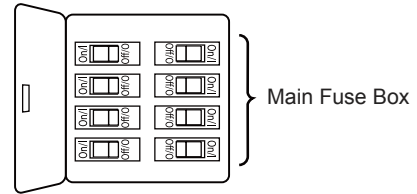
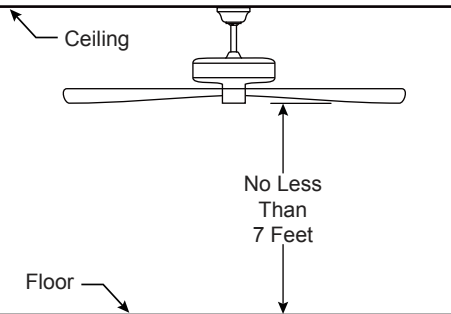
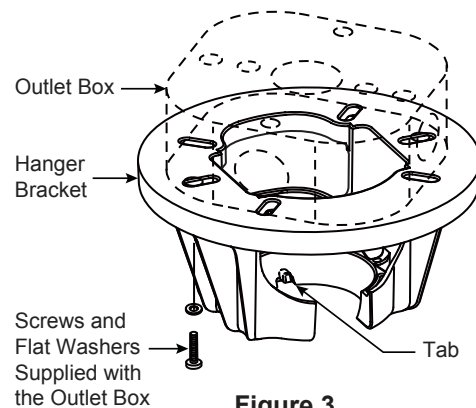

Figure 1
Figure 2
Figure 3
Your new ceiling fan will require a grounded electrical supply line of 120 volts AC, 60 HZ, 15 Amp Circuit. Electrical code requires use of a fan-rated outlet box to support the extra weight and motion associated with a ceiling fan. A fan-rated outlet box will be labeled as such and typically supports up to a 70lb ceiling fan. Fan-Rated Outlet Boxes vary in ratings and design. Ensure the ratings of your ceiling fan outlet box meet the requirements for the ceiling fan being installed. Figure 1, Figure 2 and Figure 3 depicts different structural configurations that may be used for mounting the outlet box.
Low profile outlet box (Figure 1)
Deep outlet box (Figure 2)
Deep outlet box with brace (Figure 3)
- 1. Remove the hanger ball portion from the downrod/hanger ball assembly by loosening the set screw in the hanger ball until the ball falls freely down the downrod. Remove the pin from the downrod, then remove the hanger ball. Retain the pin and hanger ball for reinstallation in Step 6. (Figure 1)
- 2. Remove the hairpin clip and clevis pin from the bottom of the downrod. Retain the pin and clip for reinstallation in Step 4. (Figure 2)
- 3. Loosen the two set screws and locking nuts in the downrod support of the motor assembly. Route the black, white and blue wires through the downrod. (Figure 3)
To avoid possible fire or shock, be sure electricity is turned off at the main fuse box before hanging. (Figure 1)
The fan must be hung with at least 7' of clearance from floor to blades. (Figure 2)
1. Securely attach the hanger bracket to the outlet box using the outlet box screws and washers supplied with the outlet box. (Figure 3)
NOTE: Outlet box screws pass through slotted holes of the hanger bracket. (Figure 3)
3. Carefully lift the fan and seat the downrod/hanger ball assembly onto the hanger bracket that was just attached to the outlet box. (Figure 4) Be sure the groove in the ball is lined up with tab on the hanger bracket. (Figure 3)
1. To set the code on receiver unit, slide dip switches to the same positions as set on the remote. (Figure 1)
To avoid possible electrical shock, be sure electricity is turned off at the main fuse box before wiring. (Figure 2)
2. Slide the receiver into the hanger bracket before wiring as shown in figure 3.
1. Assemble canopy by rotating key slot in canopy over shoulder screw in hanger bracket, taking care not to pinch the wires. Tighten shoulder screw. Fully assemble and tighten second shoulder screw that was previously removed. (Figure 1)
2. Securely attach and tighten the canopy screw cover over the shoulder screws in the hanger bracket utilizing the key slot twist-lock feature. (Figure 2)
1. Secure the three blades using the 3/16"-24 truss head screw with spring washer/flat washer through the holes located on the bottom of the motor assembly. (Figure 1)
1. Remove one of the three screws in the support bracket at the bottom of the motor assembly and retain the screw for later. Slightly loosen the remaining two screws. (Figure 1)
2. Assemble the switch housing assembly to the support bracket using the two key slots in the switch housing assembly. Replace the previously removed screw and securely tighten all three screws. (Figure 2)
3. Remove one of the three screws in the switch housing assembly. Retain the screw for later and slightly loosen the remaining two screws. (Figure 3)
- 1. IMPORTANT:** Using a full range dimmer switch (not included) to control fan speed will damage the fan. To reduce the risk of fire or electrical shock, do not use a full range dimmer switch to control the fan speed. (Figure 1)
- 2.** Restore electrical power to the outlet box by turning the electricity on at the main fuse box. (Figure 2)
- 3.** To make fan operational, install 23A/12V battery (included) in hand-held remote transmitter, with fan power off. Then follow the remote code setting process. (If not used for long periods of time, remove battery to prevent damage to transmitter). Store the remote away from excessive heat or humidity. (Figure 3)